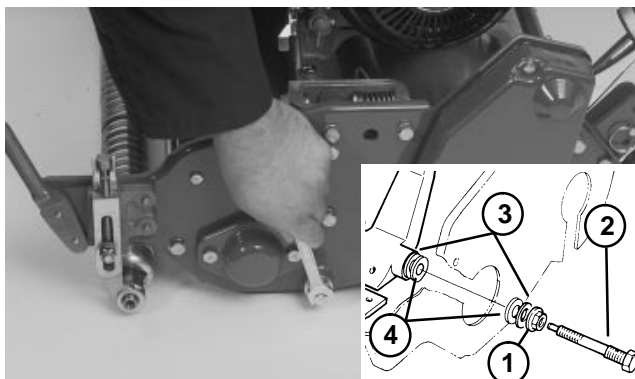

Figure 23
4. Loosen flange nuts on both sides of the mower. Remove both bedbar bolts on each side of the mower with the metal and nylon washers. Discard nylon washer (Fig. 23).